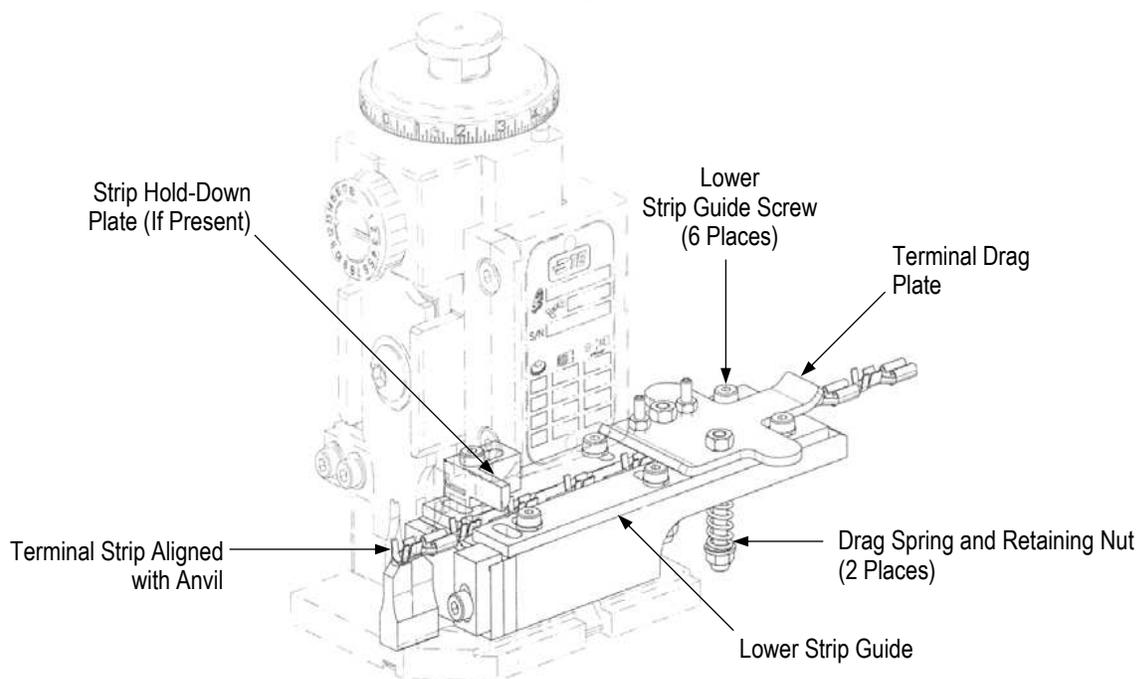

Figure 10
3. Remove the two nuts holding the springs in place on the terminal drag plate. Refer to Figure 10.
8. If present, adjust the strip hold-down plate (shown in Figure 10) so it is square with the terminal strip and positioned so that it will not interfere with the slug blade tooling on the ram (shown in Figure 4).